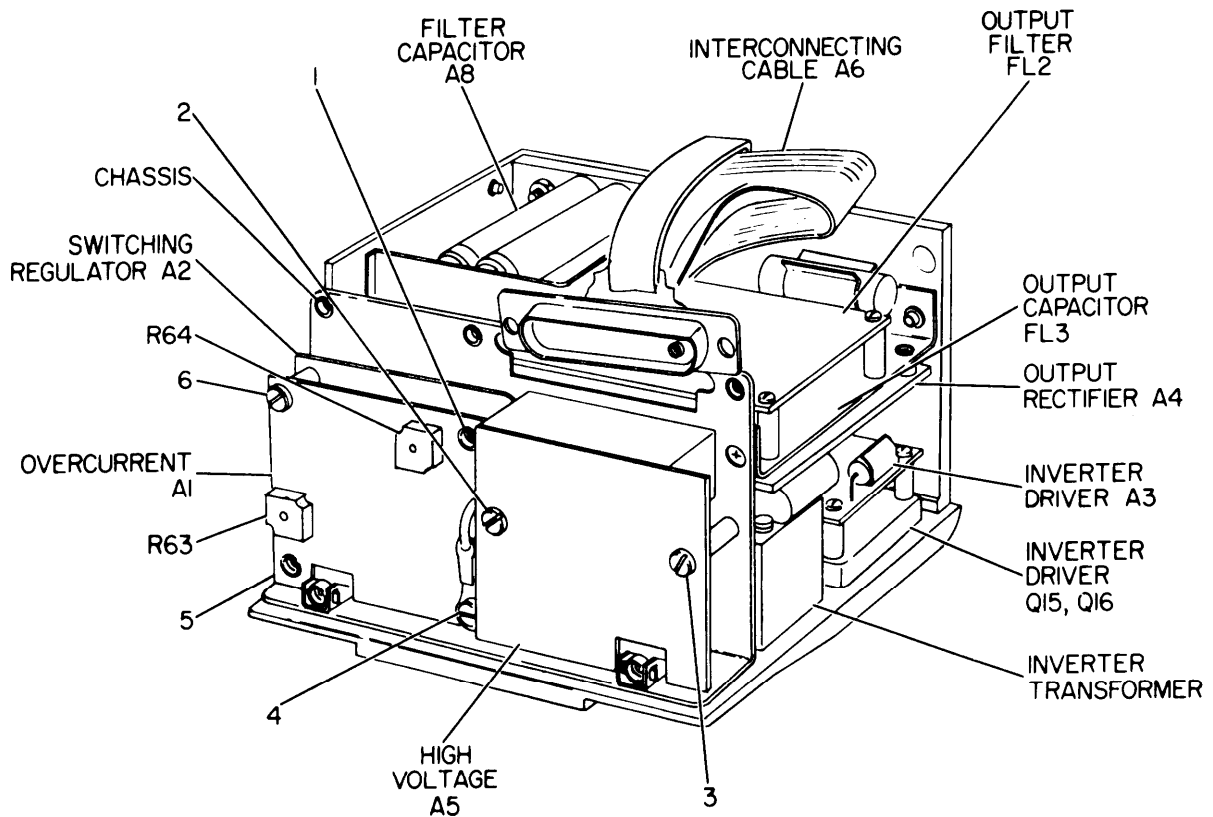

Figure 4-23. Power Supply, Identification of Assemblies
3. Remove two screws (2, 3, figure 4-23) from high voltage assembly A5.
5. Remove four screws (1, 4, 5, 6, figure 4-23) from over-current assembly A1.
6. Separate switching regulator assembly A2 from over-current assembly A1, and unsolder and tag all leads to both assemblies (figure 4-23) .